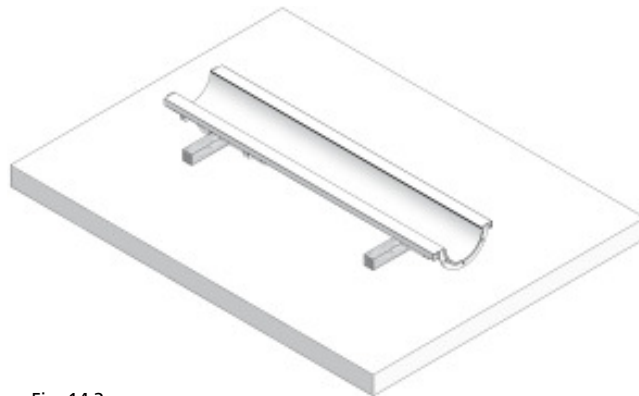

Fig. 14.2
2. Force the semi-circular columns halves apart with a wooden wedge. Place the one that is attached to the crane on the ground for cleaning (Fig. 14.2).